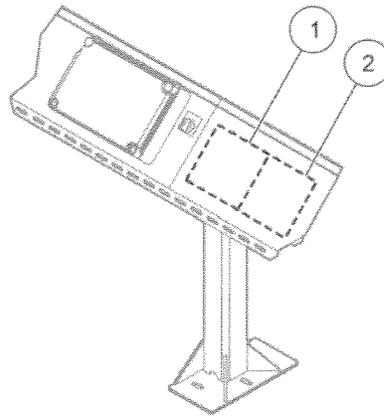

Figure 7 Electrical cutout placement
1. Locate the red label on the PDC enclosure. This is the end where electrical connections are made (Figure 7).